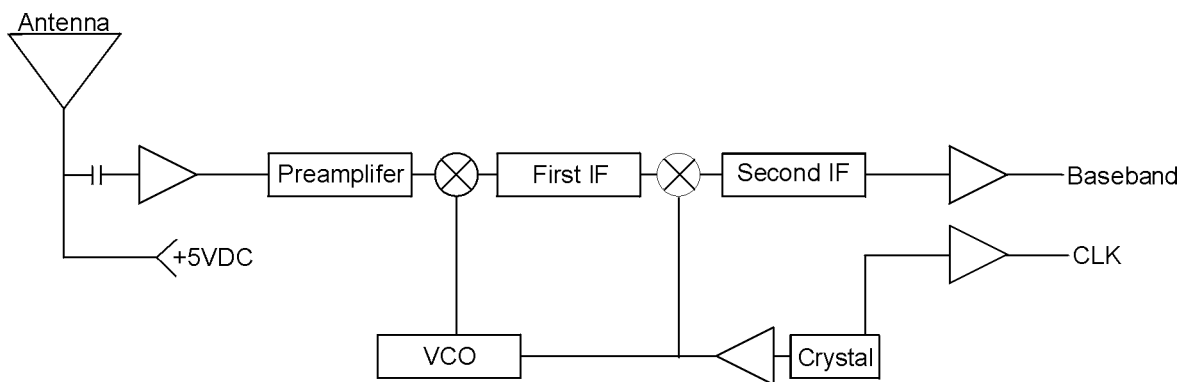

Figure 1-4. GPS 155XL GPS Receiver Block Diagram
The GPS Receiver (Figure 1-4) consists of the following circuitry:
The frequency synthesizer uses the high-precision oscillator as a reference frequency for the phase detector in the synthesizer. The resultant frequency is used in the mixer section to product the first intermediate frequency (IF). After further amplification and mixing with a product of the crystal oscillator, the baseband IF is passed to the CPU Board for processing. The crystal output is also used for the system clock pulse. The GPS assembly is contained within a shielding fence/cover and connection to the antenna is made via a BNC connector. The GPS supplies +5 V to the antenna's preamplifier through this BNC connector. The block diagram in Figure 1-4 shows the interaction between components on the GPS Assembly.